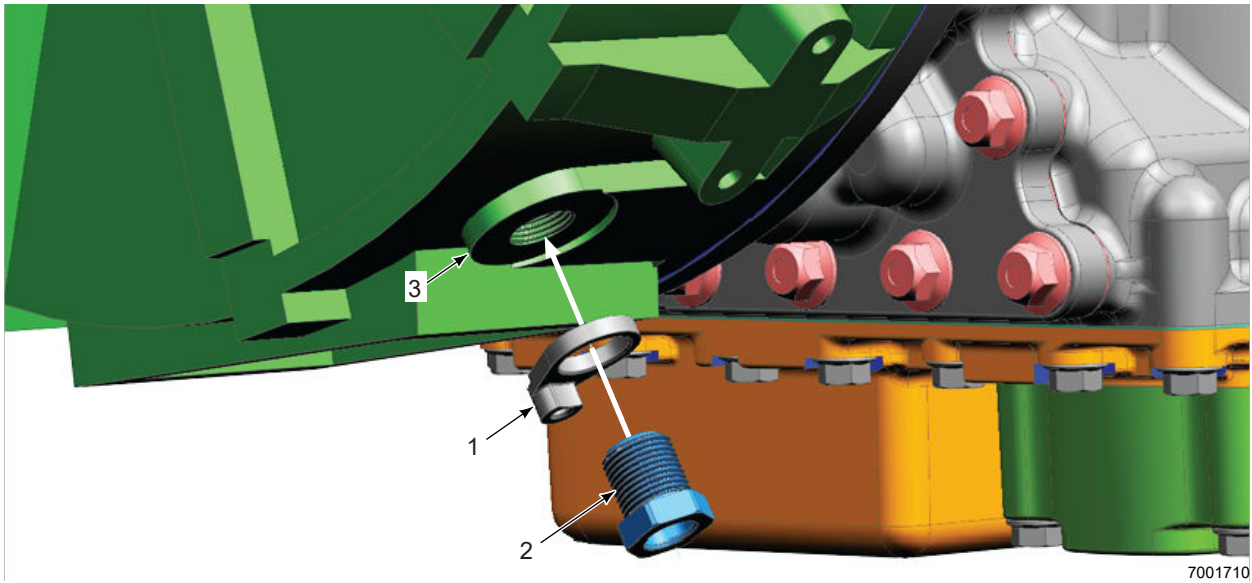

Figure 1.
1. Install the bracket (1) over the adapter (2) as shown in Figure 1. Thread the adapter (2) into the engine flywheel housing port (3). (Refer to Figure 1.)